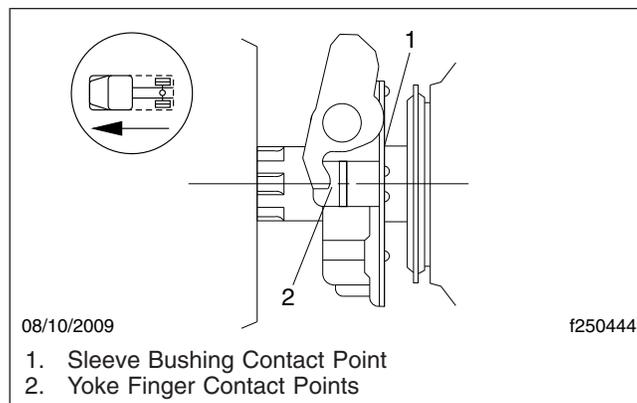

Fig. 2, Contact Points Requiring Grease
4. Wipe off excess grease and apply to both the yoke finger and sleeve bushing contact points. See Fig. 2.